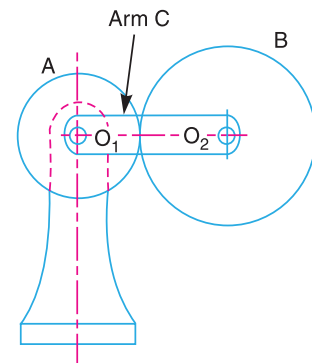

Fig. 13.6. Epicyclic gear train.
We have already discussed that in an epicyclic gear train, the axes of the shafts, over which the gears are mounted, may move relative to a fixed axis. A simple epicyclic gear train is shown in Fig. 13.6, where a gear A and the arm C have a common axis at O_1 about which they can rotate. The gear B meshes with gear A and has its axis on the arm at O_2 , about which the gear B can rotate. If the
1. **Tabular method.** Consider an epicyclic gear train as shown in Fig. 13.6.
Let the arm C be fixed in an epicyclic gear train as shown in Fig. 13.6. Therefore speed of the gear A relative to the arm C